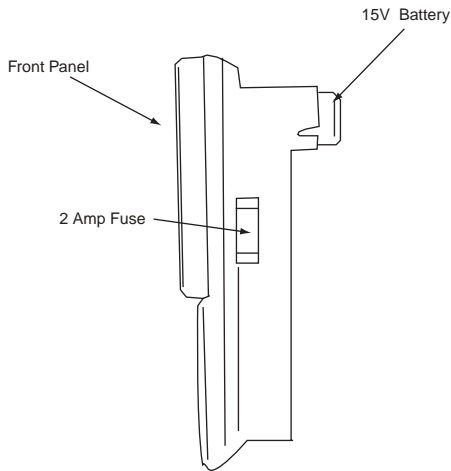

Figure 5-2. Location of 2 Amp Fuse
**NOTE:** If replacement of the 2-amp high current interrupting fuse is necessary, the Instrument case must also be removed (see paragraph 5.5 and Figure 5-2).